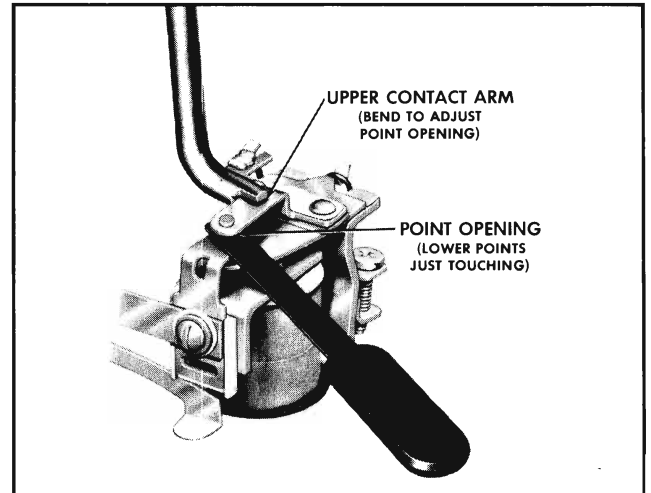

Fig. 11-49 Point Opening Adjustment on Double Contact Voltage Regulator
- a. Push armature down until the lower set of contacts are just touching. Measure point opening between upper set of contacts (Fig. 11-49). Point opening should be .016".